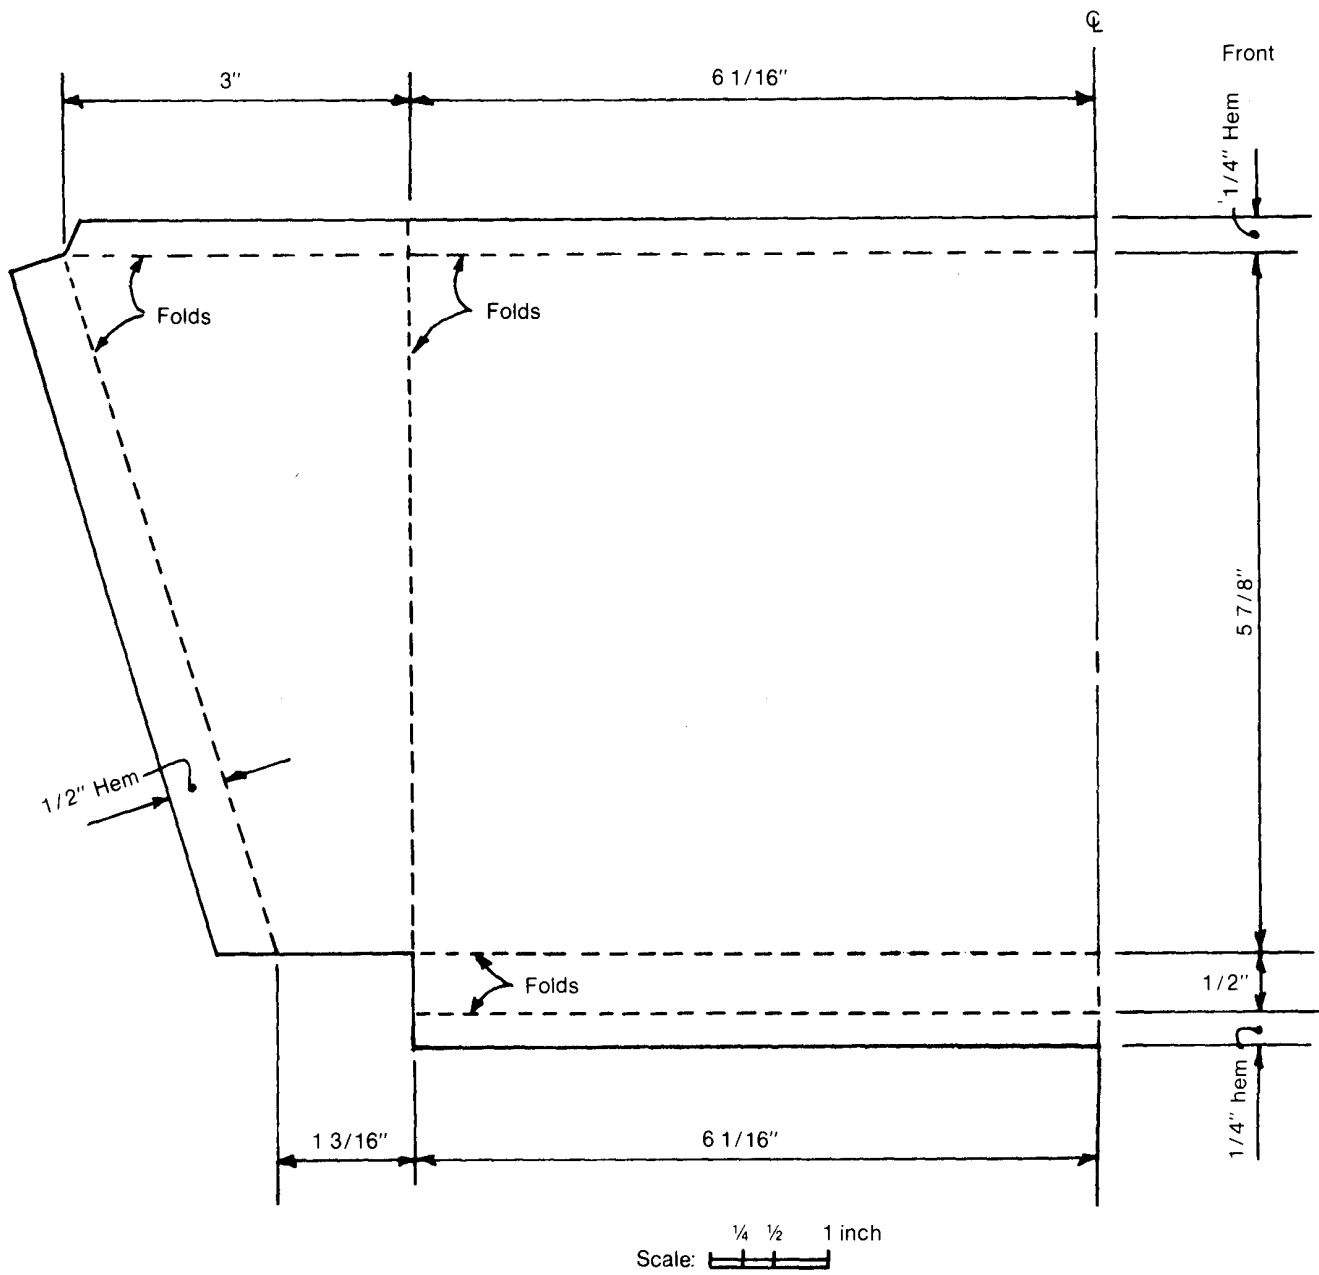

Figure 3—Half template for cutting the 16-gauge sheet metal for the front and sides of the gritter.
- ?? one 7¹/₂- by 18¹/₈-inch piece (front and sides of the bin; fig. 3)
sheet metal $\frac{1}{4}$ inch along its long ($18\frac{1}{8}$ -inch) side. Trim off the excess metal, hem and bend as shown in figure 3.